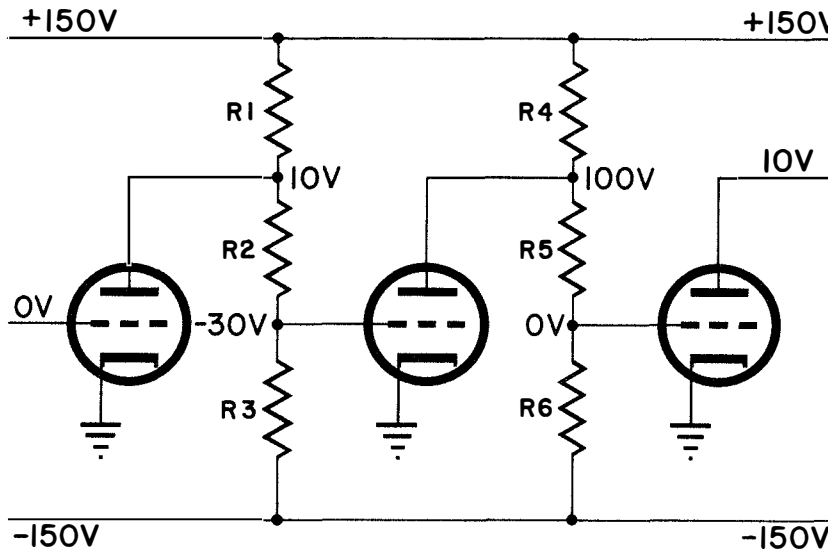

Figure 2-1. D-C Amplifier, Functional Diagram
c) Voltage Amplifiers. D-C voltage amplification and signal limiting action are provided by V102 and V103, type 12AX7 twin triodes. Switch S102 (NORMAL-REVERSE) permits phase inversion of the output by cutting out one section of V102. No loss of gain results when this section is eliminated because each stage is overdriven so that a given tube section is either biased to cut-off or driven to the maximum conductivity permitted by its plate resistor. By saturating each tube in this manner, noise and unfiltered audio ripple are prevented from appearing in the output signal. Plate voltage and grid bias for each section are obtained from voltage bleeders across the positive and negative B supplies which permit direct interstage coupling while retaining correct plate and grid voltages. Figure 2-1 illustrates this system.